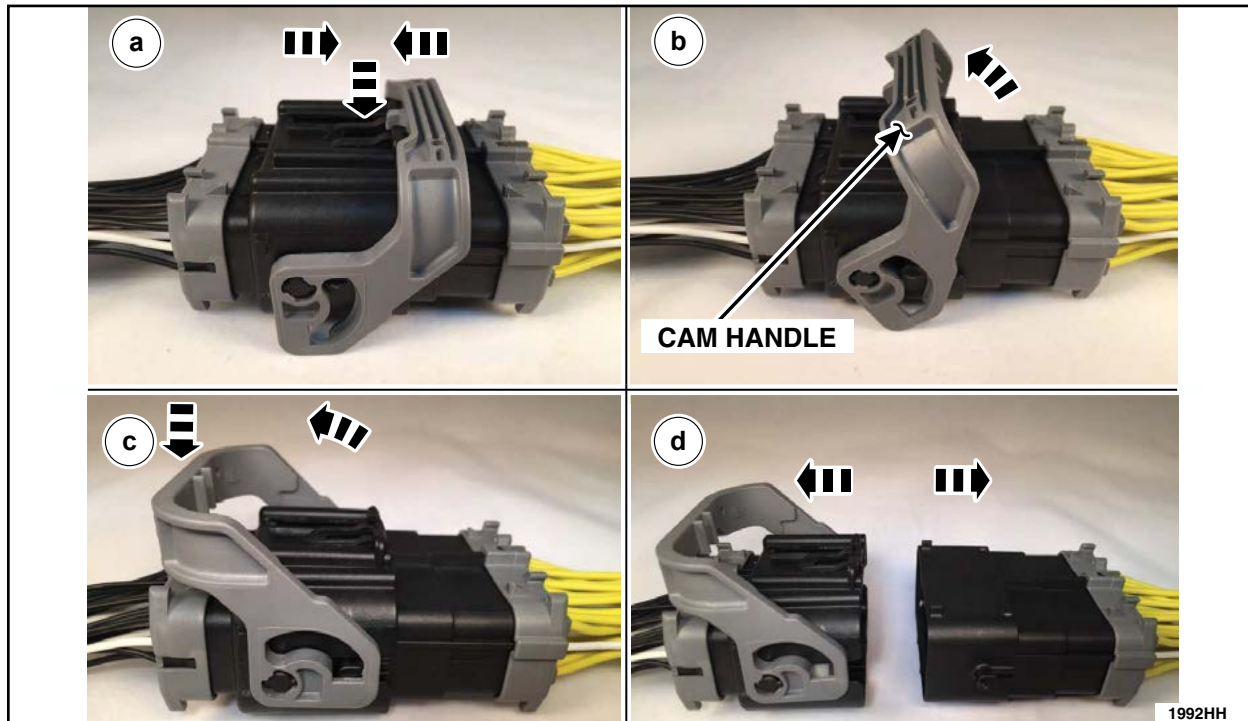

FIGURE 16
16. Release the connector lock and open the connector C422. See Figure 16.